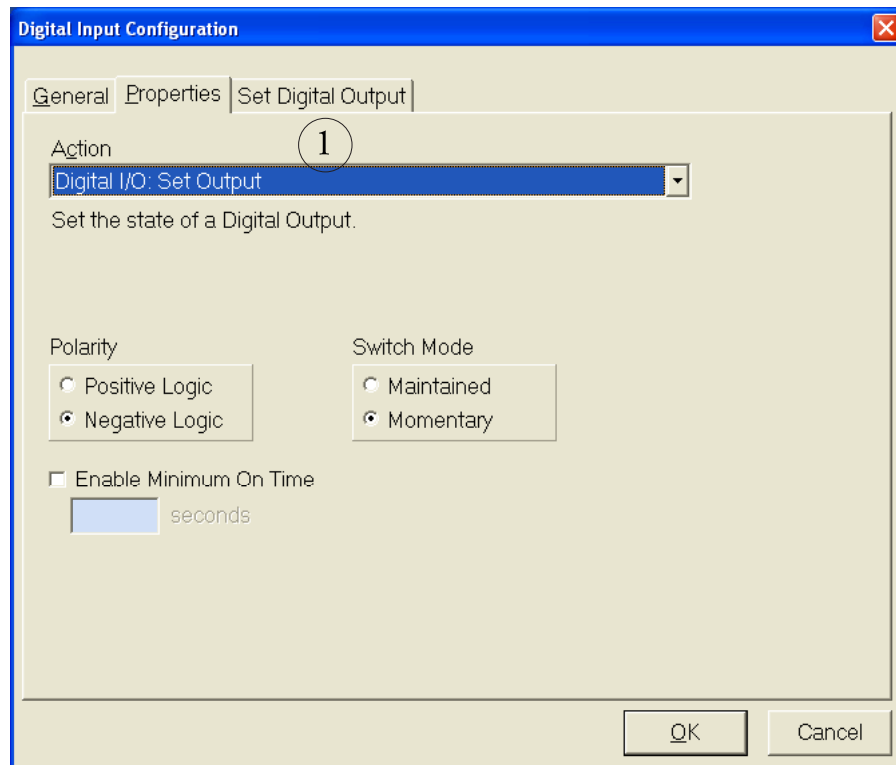

Figure 31. Digital Input Configuration panel—Digital I/O: Set Output
1.2 Select the Message tab (*Part 1 in Figure 31*).
- 2.1.1 In the text box, enter the message (*Part 2 in Figure 31*).
- 2.2.1 In the Message tab of the Action Configuration, select the radio button for From Attribute (*Part 3 in Figure 31*).